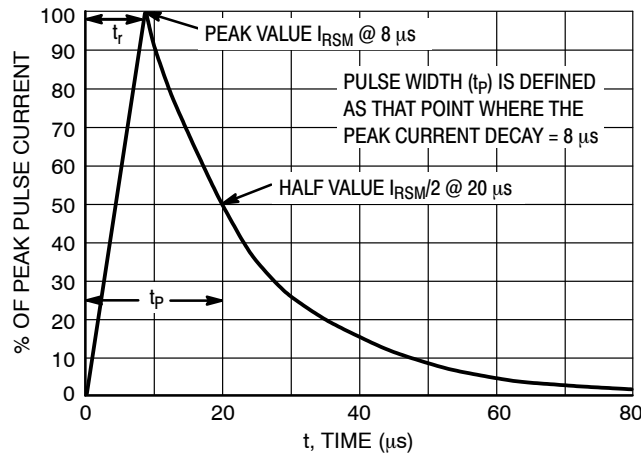

Figure 5. 8 x 20 μs Pulse Waveform
- Surge current waveforms per Figure 5.